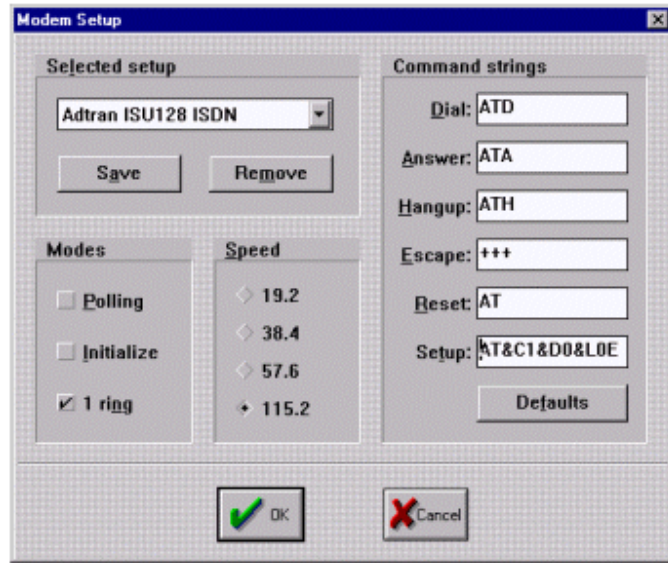

Figure 3
9. Under the Modem Setup screen the following should be set (see Figure 3):
- d. **Note:** Do not select **Polling** or **Initialize** (see Figure 3).